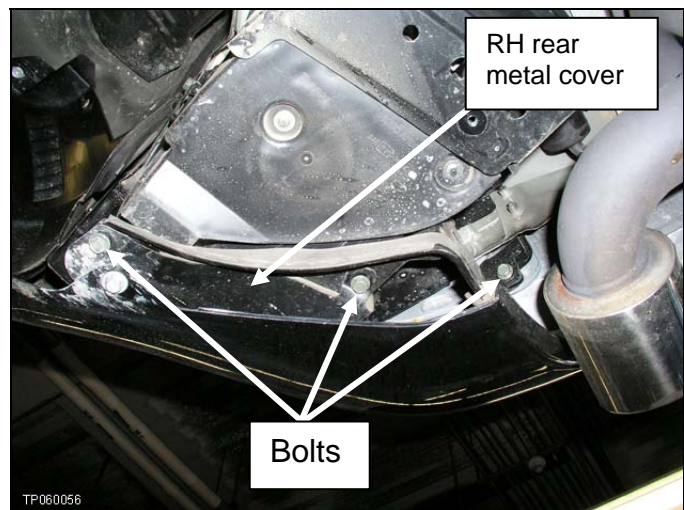

Figure 5
8. Below the plastic cover you just removed: remove three bolts and remove the rear metal cover (see Figure 5).